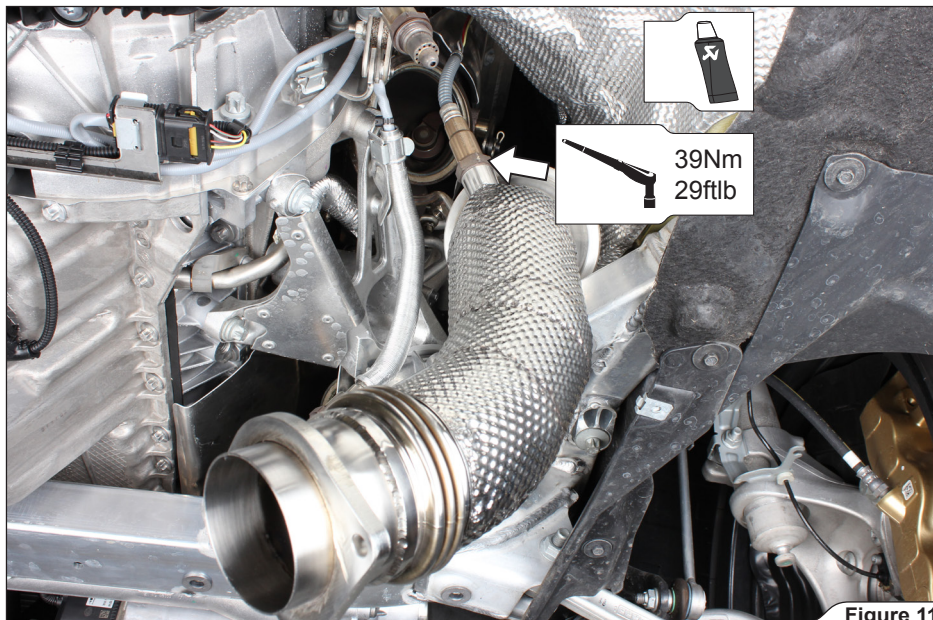

Figure 11
1. Install the Akrapovič Downpipes in the following order (**Figure 11, 12, 13, 14, 15, 16**):